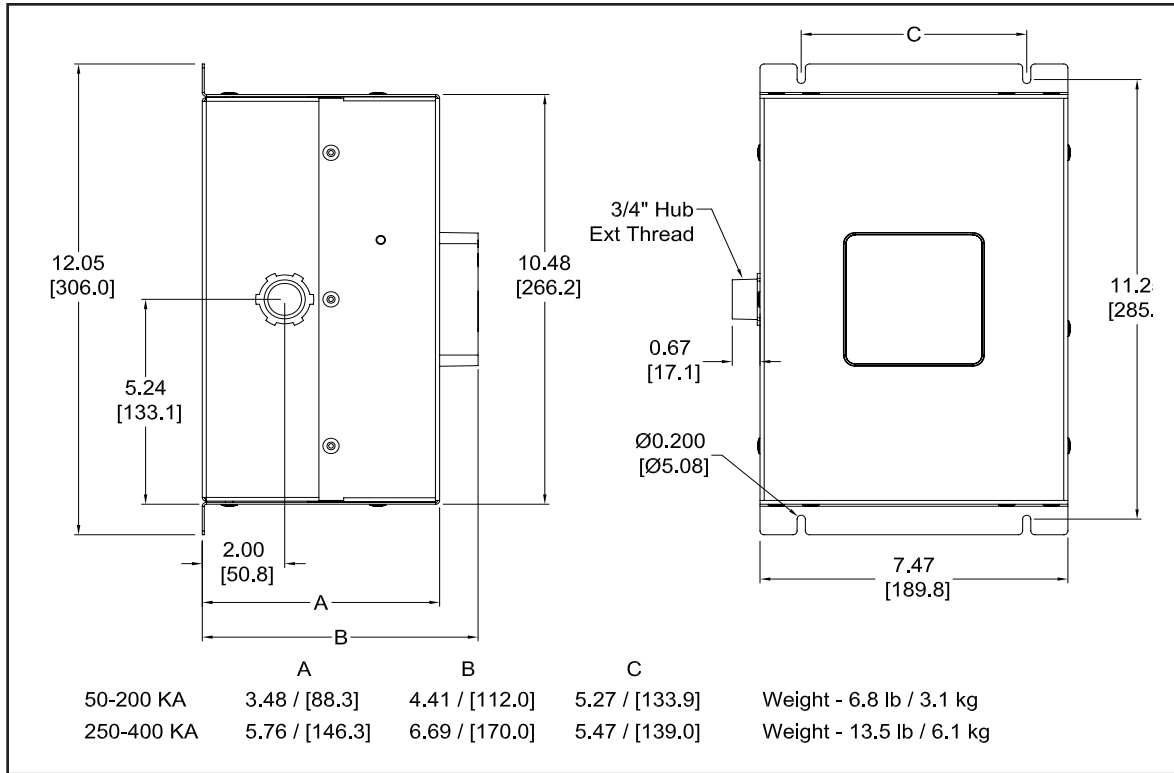

Figure 2. NEMA 1 (Suffix K)
1. Before mounting the SPD first determine the ideal location and ensure that the mounting surface is sufficient to support the weight of the SPD (See Figures 2 and 3 on page 4 for model weights). The SPD should be mounted as close as possible to the electrical enclosure and as close as possible to the wiring connection point within the enclosure. This will ensure a minimum wire length and maximum SPD performance.
2. Lay out the four enclosure mounting holes using the enclosure dimensions provided in Figures 2 and 3 on page 4. Drill the appropriate holes per the product dimensions. **Note:** NEMA 1 enclosures require a #10 fastener.
Weight	Reference Figures 2, 3, 4, 5, and 6 on pages 4, 5 and 6